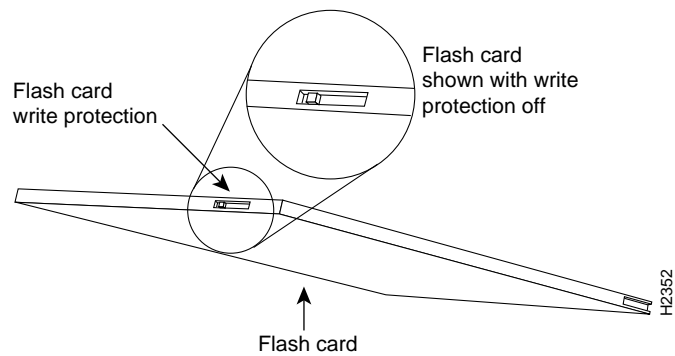

Figure 3 Locating the Flash Card Write Protection Switch
- Step 5** Verify that the flash memory card is set with write protection off. The write protect switch is located on the top edge of the card when oriented with the printing right side up (see Figure 3).